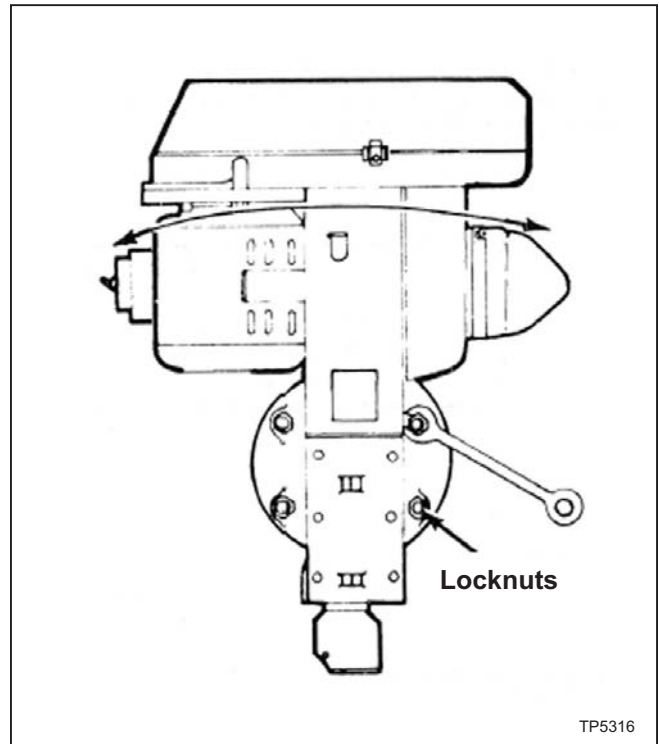

Figure 2.33 - Shaping Head
1. Loosen the four locknuts (see Figure 2.33). Support unit to prevent free fall.